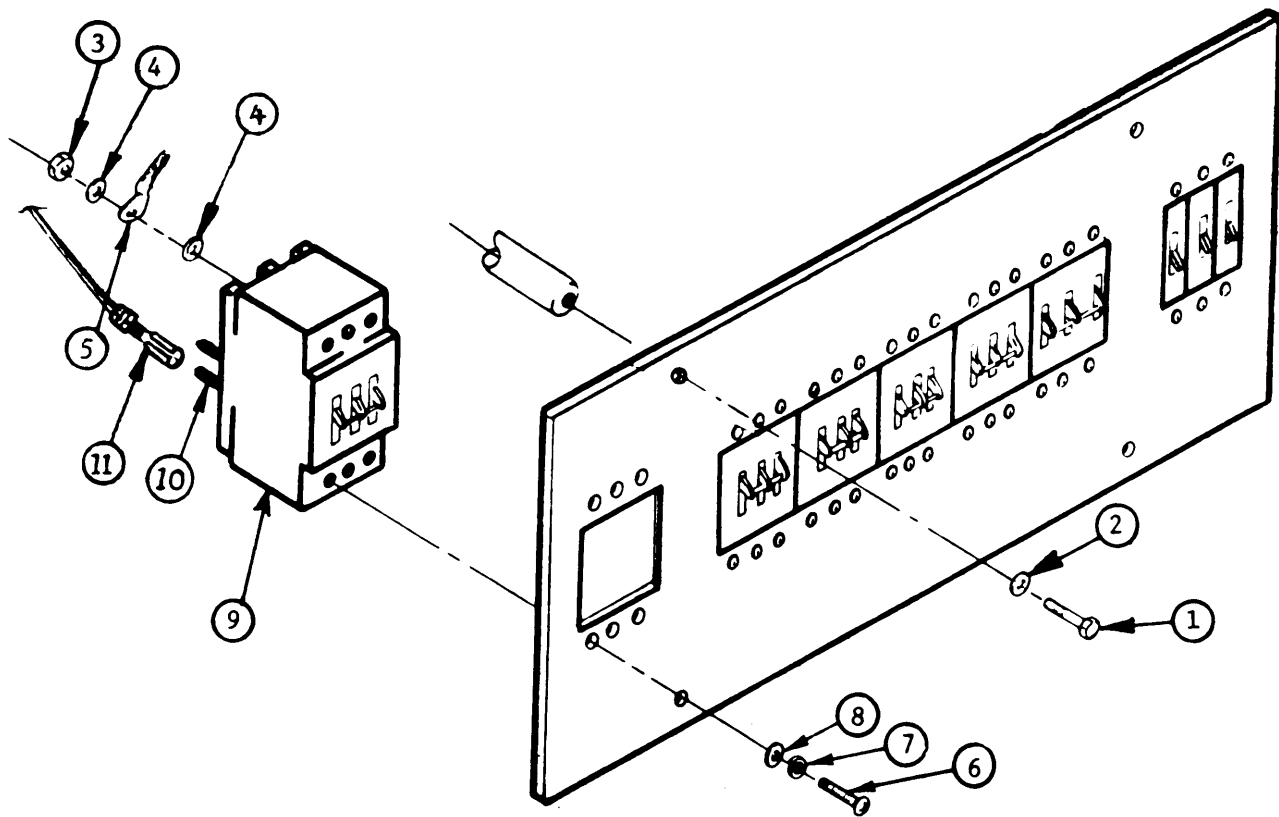

Figure 2-59. Circuit Breaker
- b. **Removal.** (Figure 2-59)